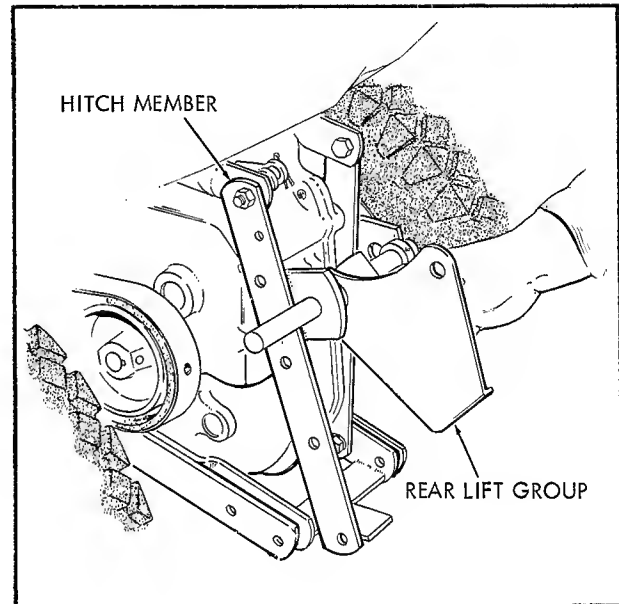

Fig. 2
2. Swing hitch member outward and install lift assembly as shown. Return hitch member to original position and replace hex cap screws. See figure 2.